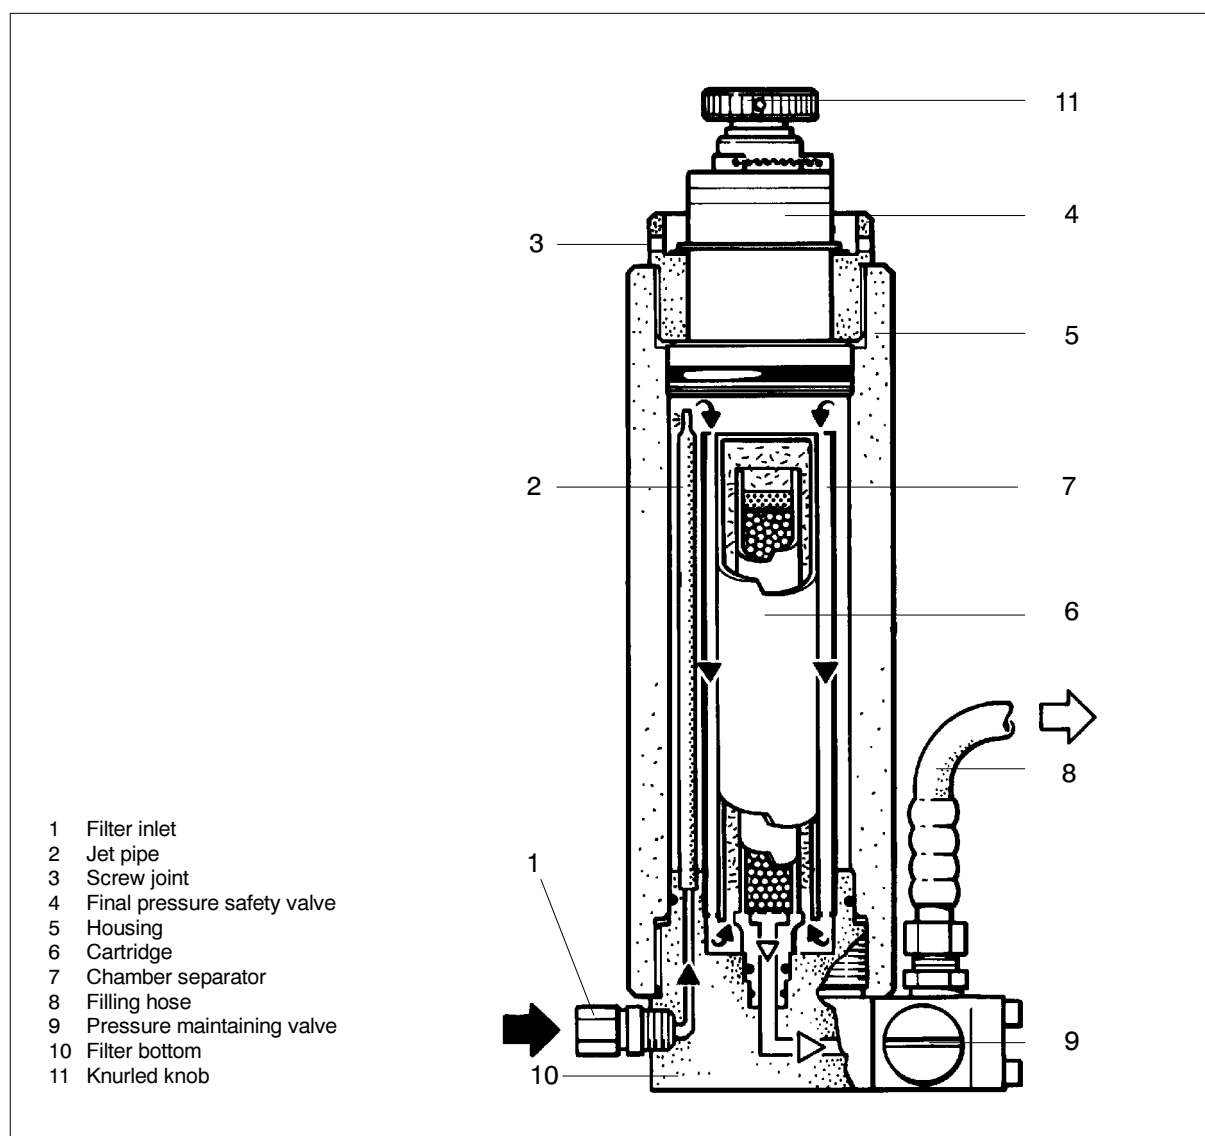

Fig. 8 Filter system P21
Air leaving final stage is cooled in the after-cooler to approx. 10 – 15 °C (18 – 27 °F) above ambient temperature and then enters filter system **P21** with **TRIPLEX** longlife cartridge (Fig. 8). The filter assembly consists of separator and cartridge chamber. In the separator surrounding the cartridge chamber liquid oil and water particles are reliably separated from the compressed medium by a pipe nozzle.
- Unscrew knurled nut (3, Fig. 8) on top of the filter.